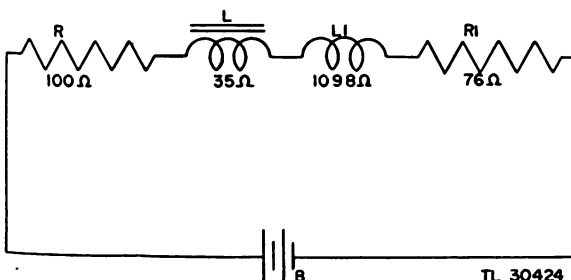

Figure 55. Resistance measurements functional schematic.
(2) **UNITS IN A SERIES CIRCUIT.** Any number of units may be employed in a series circuit, providing that they allow for the flow of continuous current and that they are so arranged that only one path is available for the flow of the current. The total resistance in any series circuit is the sum of the individual resistances of the parts comprising the circuit. The actual resistors may be distant from each other and still be so connected electrically that they constitute a series circuit. Figure 55 illustrates a series circuit. Note that the d-c resistance of the coil windings is considered an integral part of the circuit.